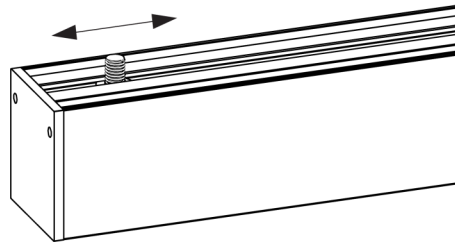

FIG. 7
- Do not remove the suspension fixture screw (Fig. 7). Move the screw to the desired position in the extrusion. Closer to the end caps are better and more stable.